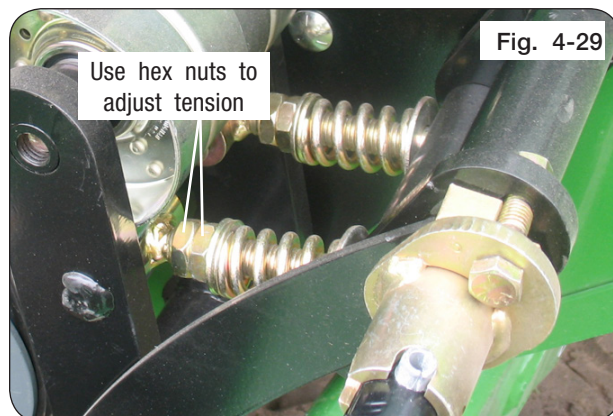

Fig. 4-29
5. Belt tension is adjusted with hex nuts below the spring. All belt tension **MUST** be released from linkage. Loosen outer hex nut and adjust inner nut to establish a  $3\frac{1}{16}$ " pre-load dimension between the heavy washers. Tighten the outer hex nut against inner nut to lock position. (Fig. 4-29)